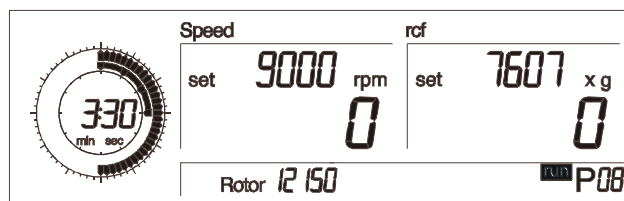

Fig. 5.18: Calling up stored programs;
- Turn the left rotary knob until “run” appears on the display (Fig 5.18).